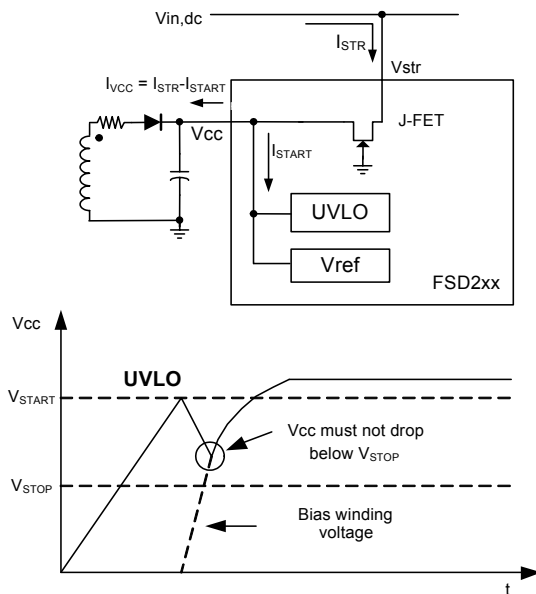

Figure 7. Charging Vcc Capacitor through Vstr
1. Startup : At startup, the internal high voltage current source supplies the internal bias and charges the external Vcc capacitor as shown in Figure 7. In the case of the FSD210B, when Vcc reaches 8.7V the device starts switching and the internal high voltage current source is disabled. The device is in normal operation provided that Vcc does not drop below 6.7V. After startup the bias is supplied from the auxiliary transformer winding. In the case of FSD200B, An internal high voltage regulator (HV Reg.) located between Vstr pin and Vcc pin regulates the Vcc to be 7V and supplies operating current, thus FSD200B needs no auxiliary bias winding.